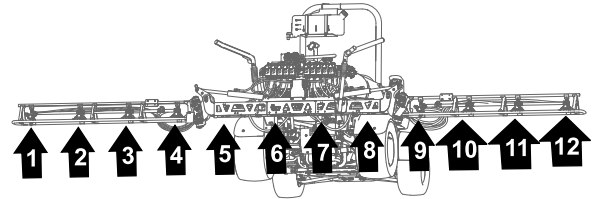
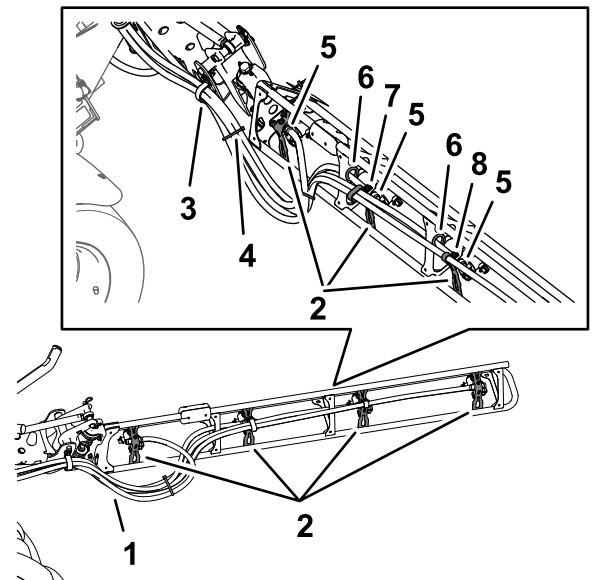

Figure 127
Figure 128
1. Route the hoses for sprayer nozzles 1, 2, 3, and 4 through the R-clamp at the left outboard end of the center-spray section (Figure 127 and Figure 128).
2. Route the hoses for sprayer nozzles 7, 8, 9, and 10 through the R-clamp at the right outboard end of the center-spray section (Figure 127 and Figure 128).
3. Route the supply hoses 279 cm (110 inches) and barbed-hose shanks (3/4 inch) along the spray section to sprayer nozzles 1 and 10 as shown in (Figure 127 and Figure 128).
4. Route the supply hoses 234 cm (92 inches) and barbed-hose shanks (3/4 inch) along the spray section to sprayer nozzles 2 and 9 along the spray section as shown in Figure 127 and Figure 128.
5. Route the supply hoses 188 cm (74 inches) and barbed-hose shanks (3/4 inch) along the spray section to sprayer nozzles 3 and 8 as shown in Figure 127 and Figure 128.
6. Route the supply hoses 188 cm (74 inches) and barbed-hose shanks (3/4 inch) along the spray section to sprayer nozzles 4 and 7 as shown in Figure 127 and Figure 128.
7. Bundle the 4 hoses for the sprayer nozzles together with a cable tie as shown in Figure 128.